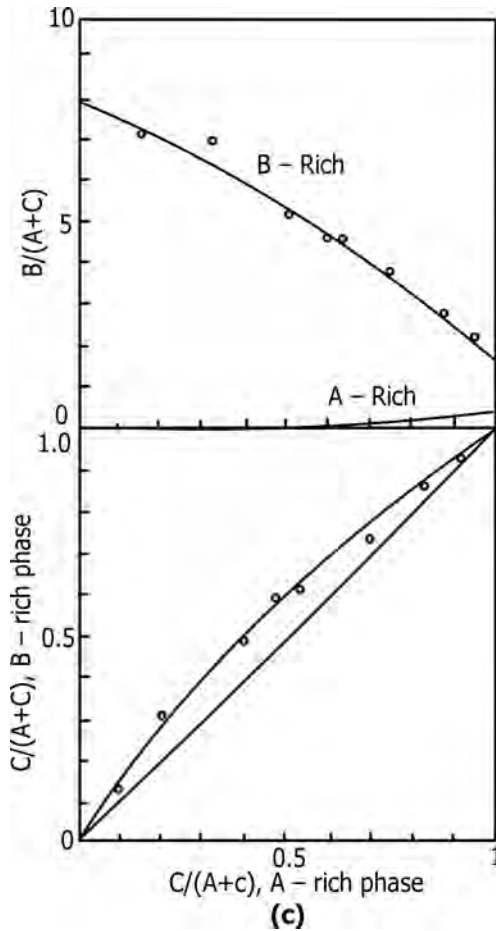

FIGURE 17.46 (Continued)
- > Figure 17.46 represents Type II equilibria for *n*-hexane–aniline–methylcyclopentane.
FIGURE 17.46 Ternary equilibria for Type II system. Hexane (A)–aniline (B)–methylcyclopentane (C) at 34.5°C. (a) Equilateral triangular plot, (b) right-angled triangular plot, and (c) rectangular coordinate plot (Janecke and solvent-free coordinates).